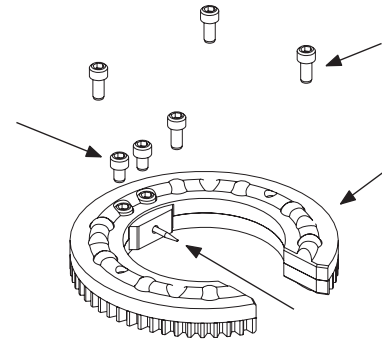

Figure 32 Removing the Rotor and Electrode Clamping Plate Screws
1. Remove the rotor screws and the electrode clamping plate screws from the rotor. Remove the electrode from the ceramic insert. See Figure 32.